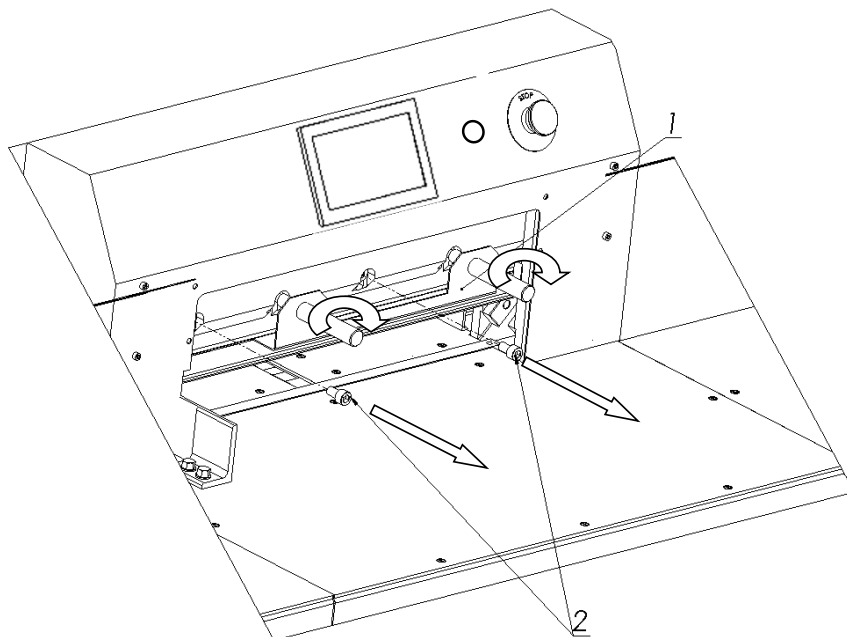

Figure 25.
8.1.1.11 Unscrew and remove the screws 2 (fig.25)